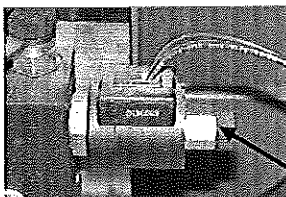

Figure 10
12. Insert and tighten the nut on the end of the cartridge to **no more than 5 ft lbs.** Make sure not to over tighten. Be sure cartridge is not in released position. Push in red button and turn clockwise. The release position is in the counter clock-wise direction. See Figure 10